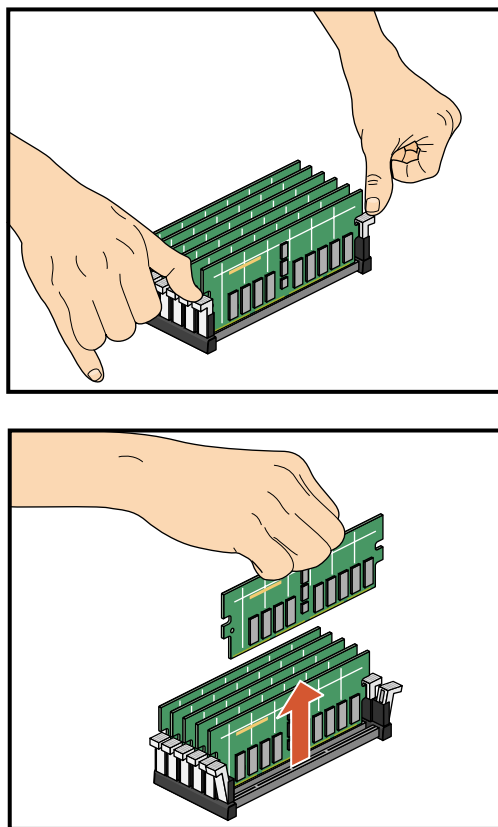

Figure 3-33 Removing a DIMM
6. Remove the DIMM, as follows (see Figure 3-33):